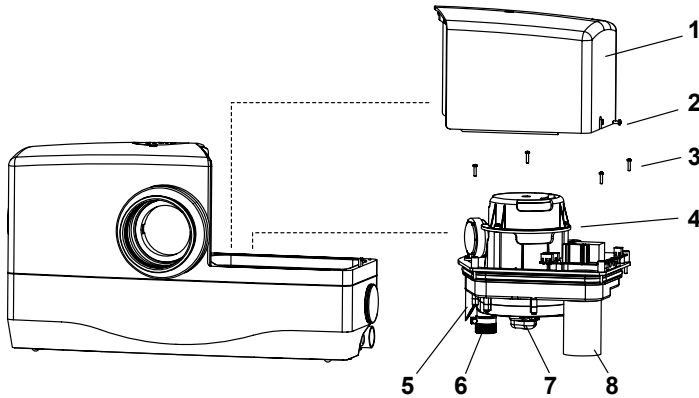

Figure 9
- > To take out the pumping unit for service, remove securing screw (2) and lift off cover (1).
- > Remove securing screws (3) and lift pumping unit (4) from tank (see fig. 9).
If rotating the rotorshaft fails to clear the blockage then the complete motor/pumping unit must be removed from the tank for inspection and the blockage cleared by hand (see page 40, fig. 9).